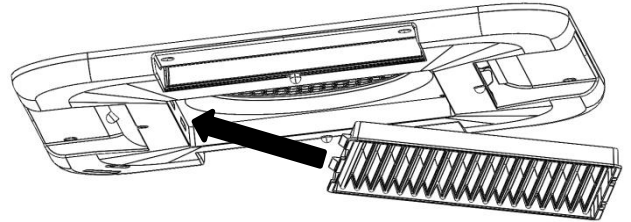
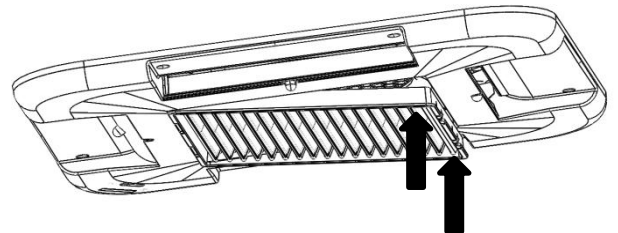
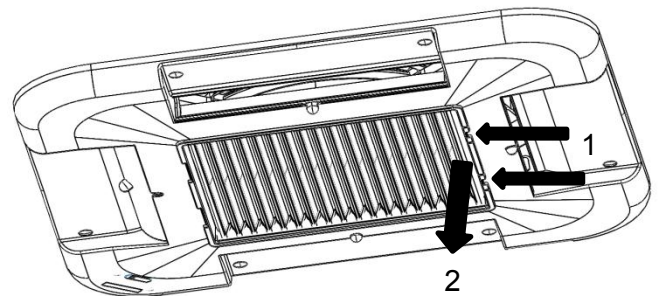

Figure 14 - Insert filter tabs into slots
Figure 15 - Push upwards
Figure 16 - Remove filter from plenum
- Locate the Plenum assembly (Item #4) and remove the filter (Item #5). See Figure 16
- Align the tabs on one side of the filter body with matching slots in the plenum. Insert the filter into the recess in the plenum. Figure 14
- Push the filter upwards until both catches engage and hold the filter in place. Figure 15
1. To remove the filter Figure 16:
To clean the filter, first remove it by pushing both tabs on the side to release. Figure 16. Swing the filter down and out. Figure 15 & Figure 14.